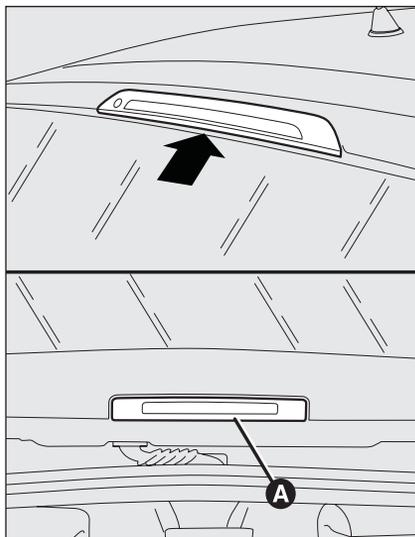

fig. 32
- remove cover **A**-fig. 32;
- refit cover **A**-fig. 32 and then close the tailgate.